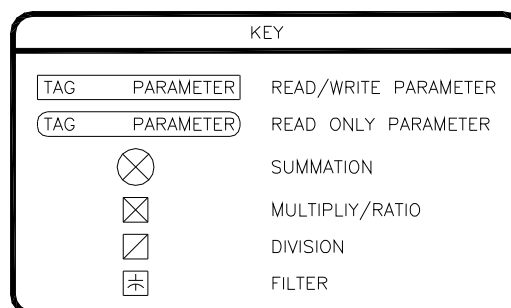

Figure 4: Block Diagram Key
Each parameter has a descriptive name and a tag (or number) identifier. The following sections contain each software block diagram and descriptions of each parameter function. Refer to Figure 4 below for key conventions that are used in the block diagrams. Each parameter is either a Read-Only (RO) or Read-Write (RW). Remember that parameter changes must be saved by setting Save (parameter 1) to 1.